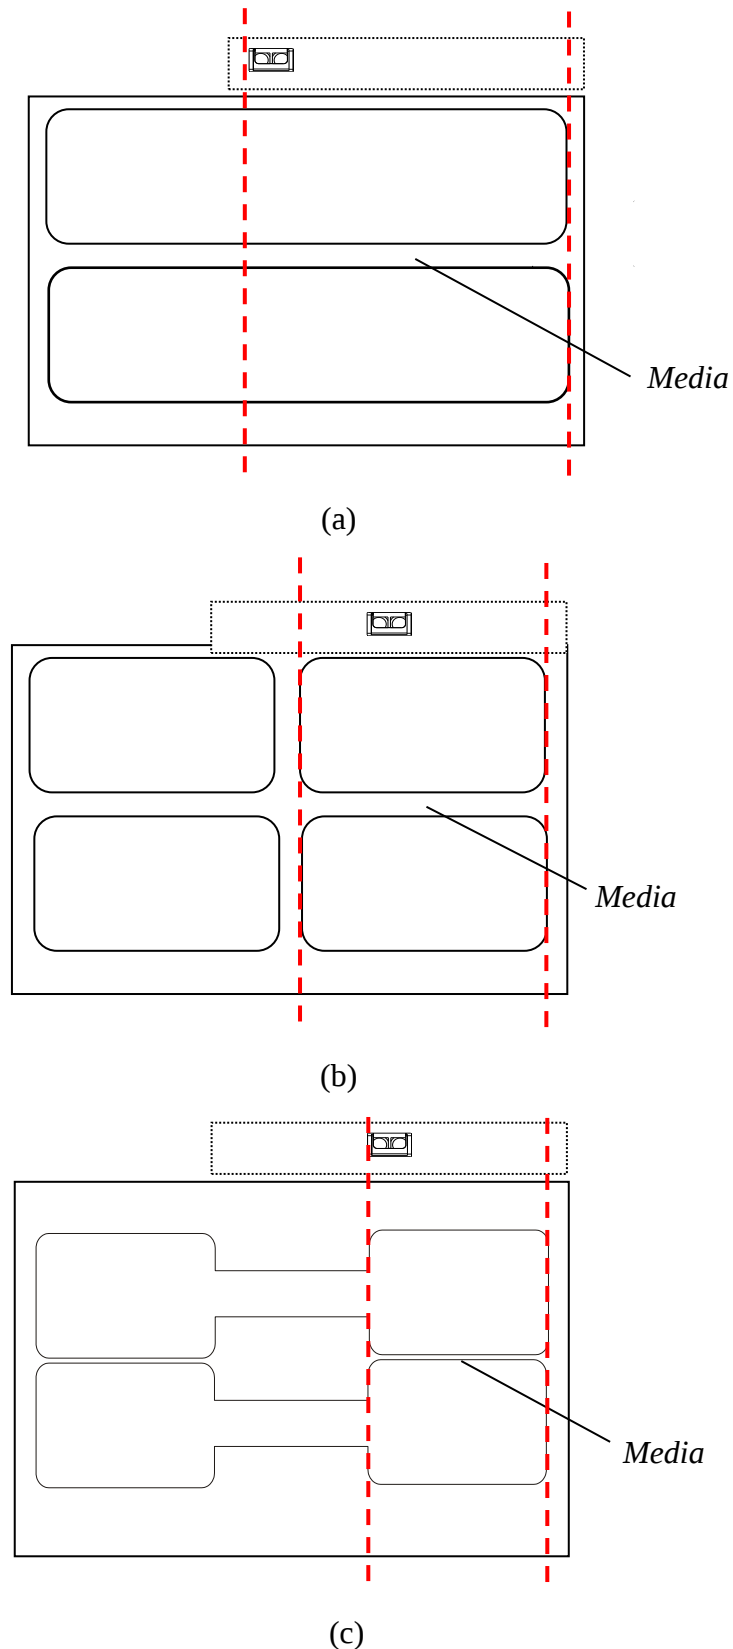

Figure 2-19 Media Sensor Position
- *Technically, the Transmissive Sensor is designed to detect a gap, hole or notch between labels, the Reflective Sensor is for detecting black marks. However, in many cases, the Reflective Sensor also can be used to detect gap, hole or notch. When choose Reflective Sensor to detect gap between labels, please refer to Figure 2-19(a) (b) (c) to adjust the position of the sensor for different media types as shown, the sensor shall be placed between the dotted lines.*